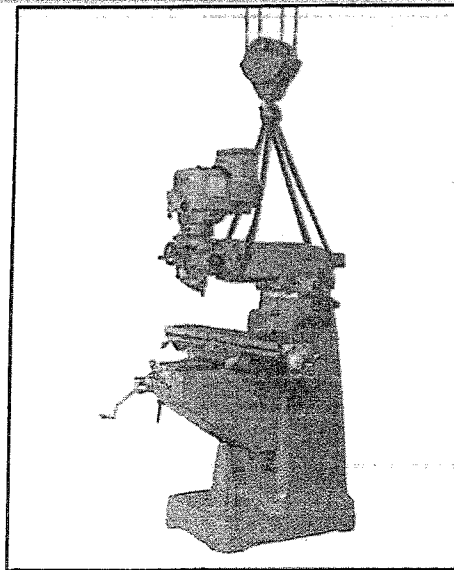
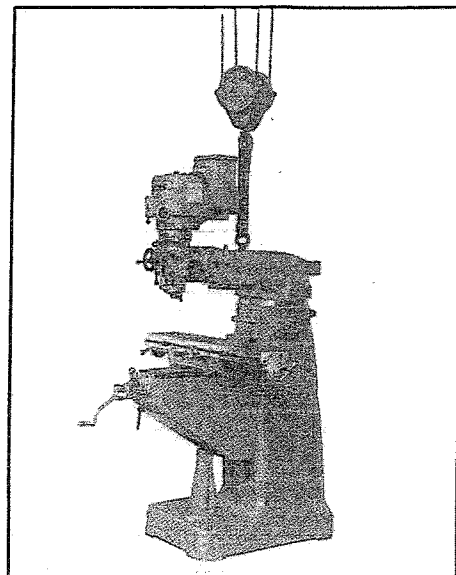

Figure 22
Figure 23
- (2) After packing, transport may be made by hoisting with a reinforced cable (Figure 22) and the eye bolt (Figure 23).